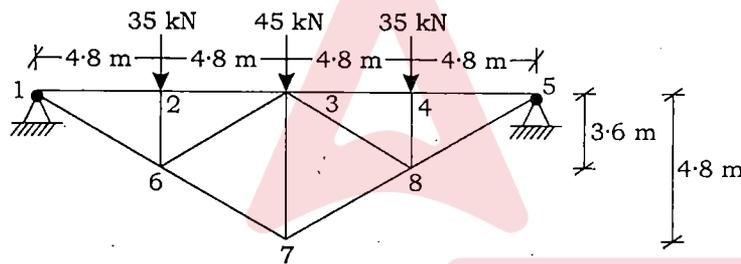

Fig. 5
- (b) Determine the member force using the method of joints for the truss shown in Fig. 5 :